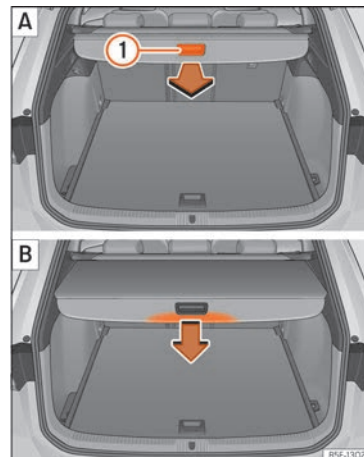

Fig. 126 In the luggage compartment: unrolling and rolling up the shelf. »
- Pull evenly on the rear shelf using its handle »» Fig. 126 ① A in a backwards direction until it audibly clicks into place.
- Press on the handle of the rear shelf in the direction of the arrow to release it »» Fig. 126 ② B.